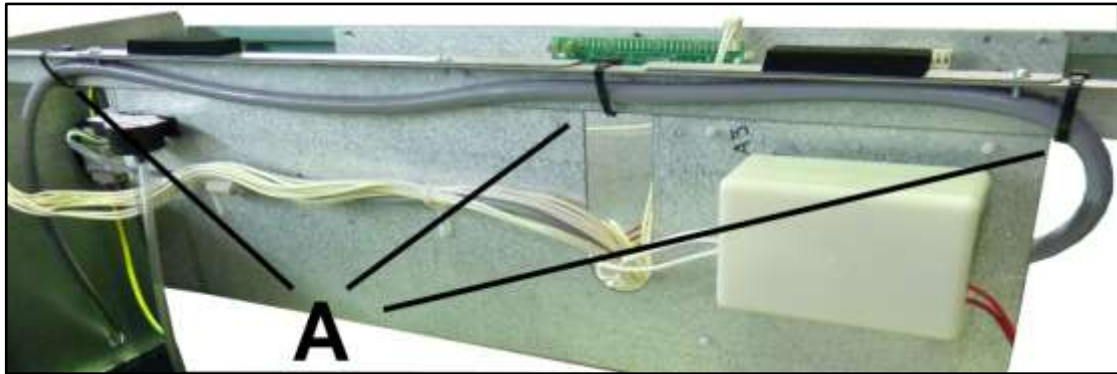

Fig.3.11
- In models **HS-6024/HS-6032** and **EH060/EH080**, secure the conductor using the cable ties on the outside of the electrical cabinet, as shown in Fig. 3.11/A.